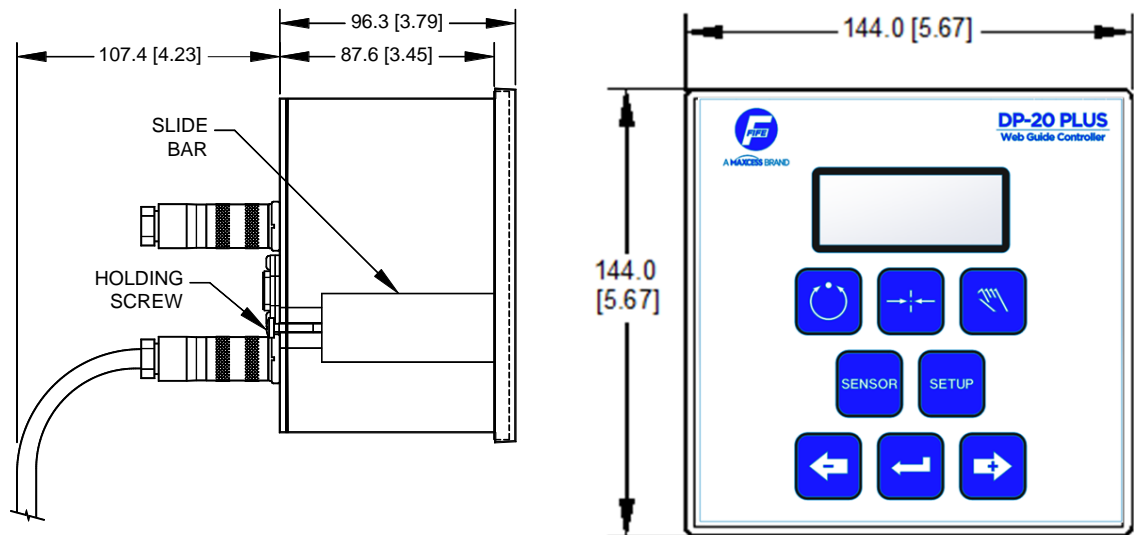

Figure 1 - DP-20 PLUS Front and Side Views (Panel Mount shown with 90° connector option)
- 1) Prior to installing, remove Holding Screws and Slide Bars (2) and place DP-20 into metal cutout. Use dimensions in Figures 1 and 2 for cutout.